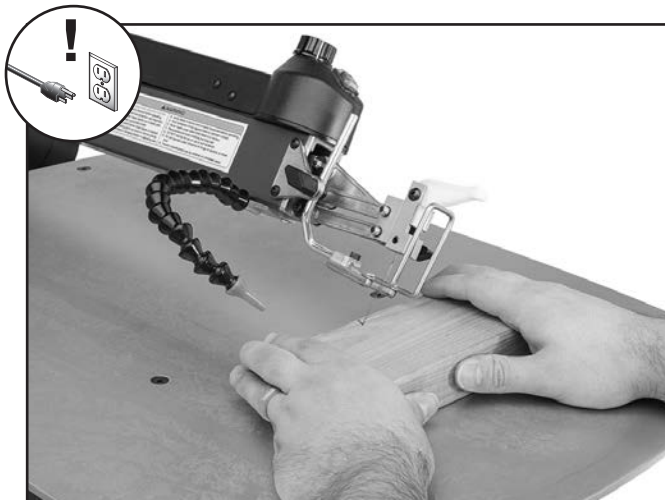

Figure 28. Making a bevel cut.
5. Using principles in **Making Standard Scroll Cuts** on **Page 25**, feed workpiece slowly and evenly into blade, remembering not to force workpiece through cut (see **Figure 28**).